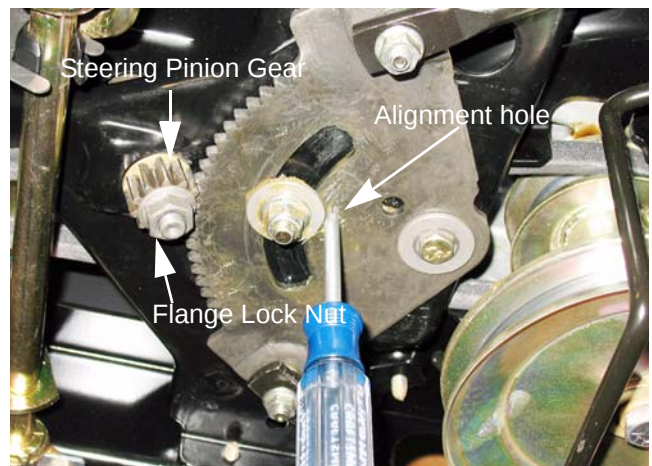

Figure 3.17
4. Remove the flange lock nut securing the steering pinion gear to the steering shaft using an 11/16" socket. See Figure 3.17.